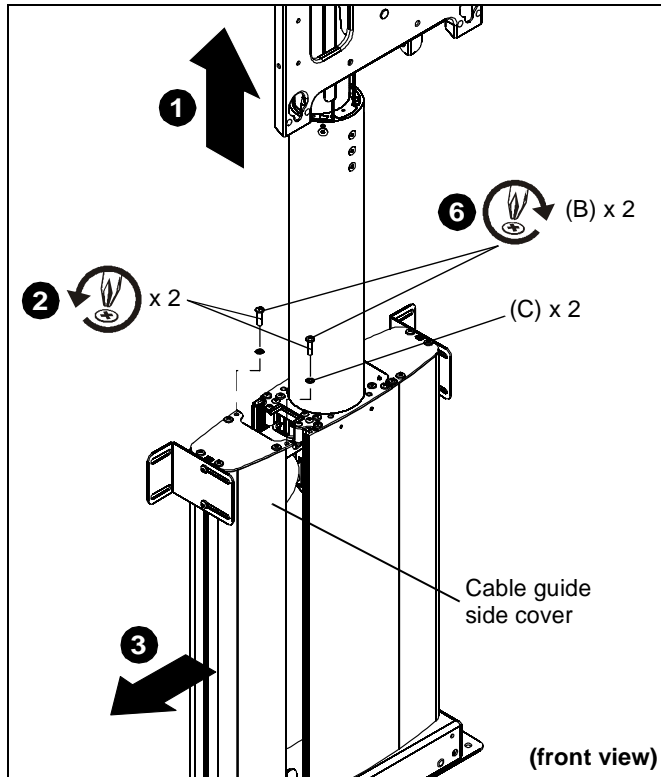

Figure 1
1. Fully extend CM2. (See Figure 1)
2. Remove two Phillips screws and lock washers securing cable guide side cover. (See Figure 1)
3. Slide cable guide side cover away from mount and carefully set aside. (See Figure 1)
4. Lubricate the length of the threaded shaft using a liberal amount of lube grease (A) on the applicator brush (F).
6. Fasten side cover to CM2 using two 1/4-20 x 1" Phillips cap head screws (B) and two 1/4" lock washers (C). (See Figure 1)